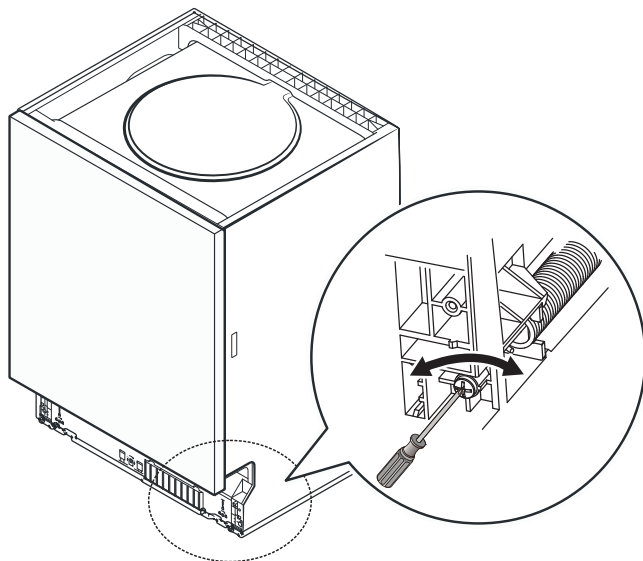

Fig. 16
- You adjust the strength of the springs using the screws located on the bottom part of the front of the dishwasher (Fig. 16).
3. You adjust the strength of the springs (left and right) using the screws located on the bottom part of the front of the dishwasher (Fig. 16). To increase the strength turn clockwise. To decrease the strength turn counter clockwise.